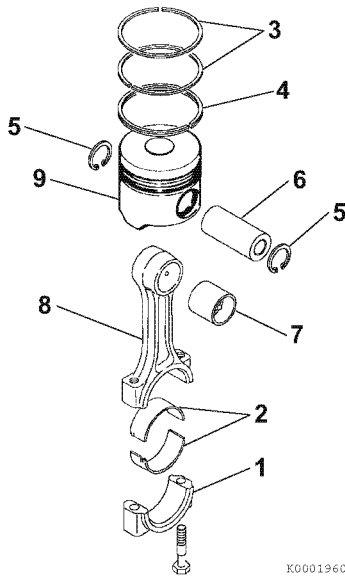

Figure 6-84
4. Lubricate and reinstall the wrist pin (6, **Figure 6-84**) through the piston and connecting rod.
5. Reinstall the second circlip (5, **Figure 6-84**) and ensure it is securely seated in the groove.